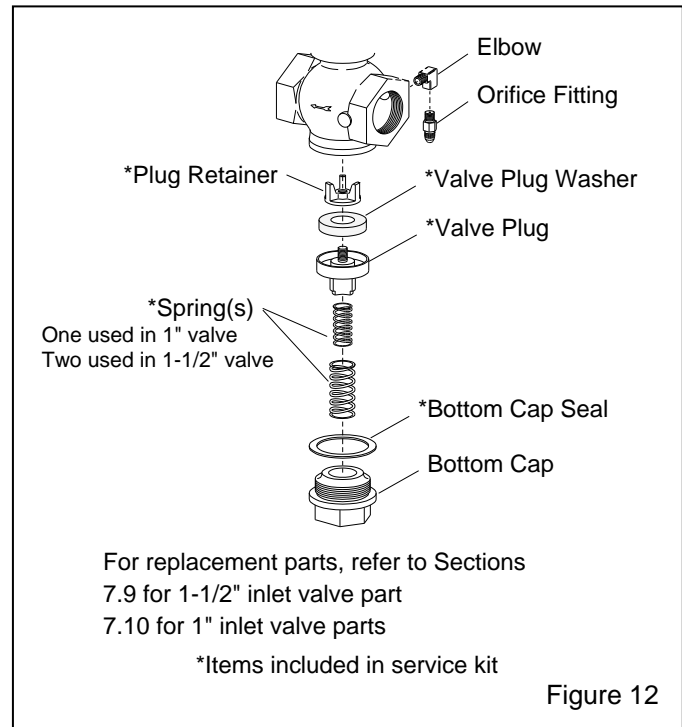

Figure 12
**5.3.1 Bottom Section, Refer to Figure 12**
**5.3.1.5** If the top section of the valve requires service, proceed to Section 5.3.2, otherwise refer to the illustration in Figure 12 to reassemble the valve in reverse order.
**5.3.2.8** Refer to the illustration in Figure 12 and 13 to reassemble the valve in reverse order.